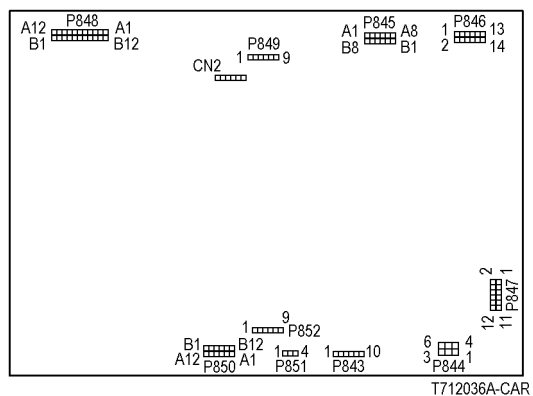

Figure 5 Finisher PWB
- If the problem persists, replace the Finisher PWB (PL 17.13) (Figure 5).